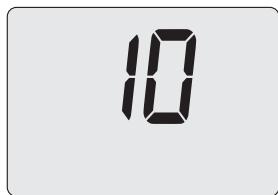

Fig. 8.44
- By using buttons 16 or 17 (Fig. 8.31) it is possible to modify the value of parameter A38 (Fig. 8.44).